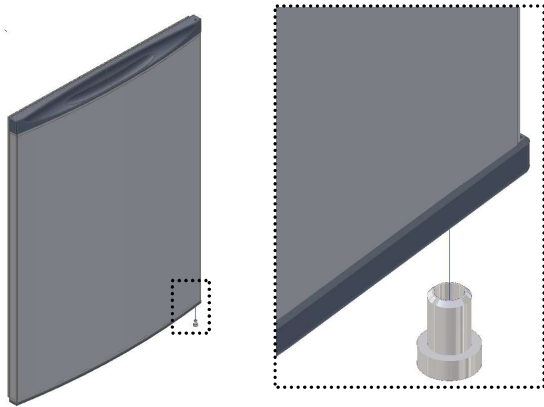

Fig. 7
- Insert the **sleeve** in the inferior side of the doors (fig. 7);